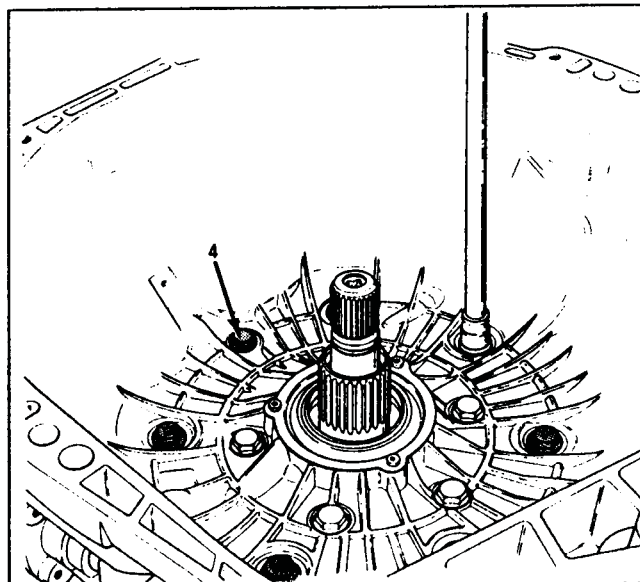

Figure 37
3. Remove 7 converter housing to main case bolts, using a 13mm socket, as shown in Figure 37.